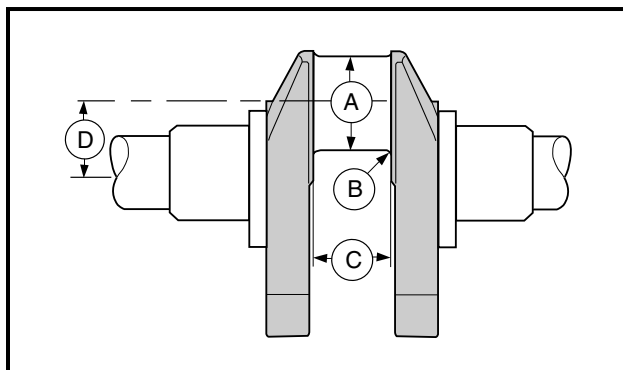

Figure 3-80 Crankshaft Finishing Dimensions
1. Have a reliable repair shop grind the crankshaft journal (A) (**Figure 3-80, Page 3-37**).
- (A) 1.4759 - 1.4763 inches (37.489 - 37.500 mm)
- (B) 0.110 - 0.126 inch (2.80 - 3.20 mm)
- (C) 1.1968 inches maximum (30.4 mm)
- (D) 1.2775 - 1.2814 inches (32.45 - 32.55 mm)
3. The connecting rod journal (A) must be concentric and cylindrical within 0.0002 inch (0.005 mm) at full indicator reading.